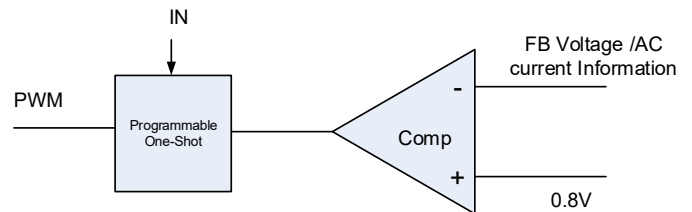

Figure 2. Simplified Control Schematic of AOZ2221QI
The simplified control schematic is shown in Figure.2. The high-side switch on-time is determined solely by an one-shot whose pulse width is inversely proportional to input voltage (IN). The one-shot is triggered when the internal 0.8V is higher than the combined information of FB voltage and the AC current information of inductor, which is processed and obtained through the sensed low-side MOSFET current once it turns-on. The added AC current information can help the stability of constant-on time control even with pure ceramic output capacitors, which have very low ESR. The AC current information has no DC offset, which does not cause offset with output load change, which is fundamentally different from other V2 constant-on time control schemes.